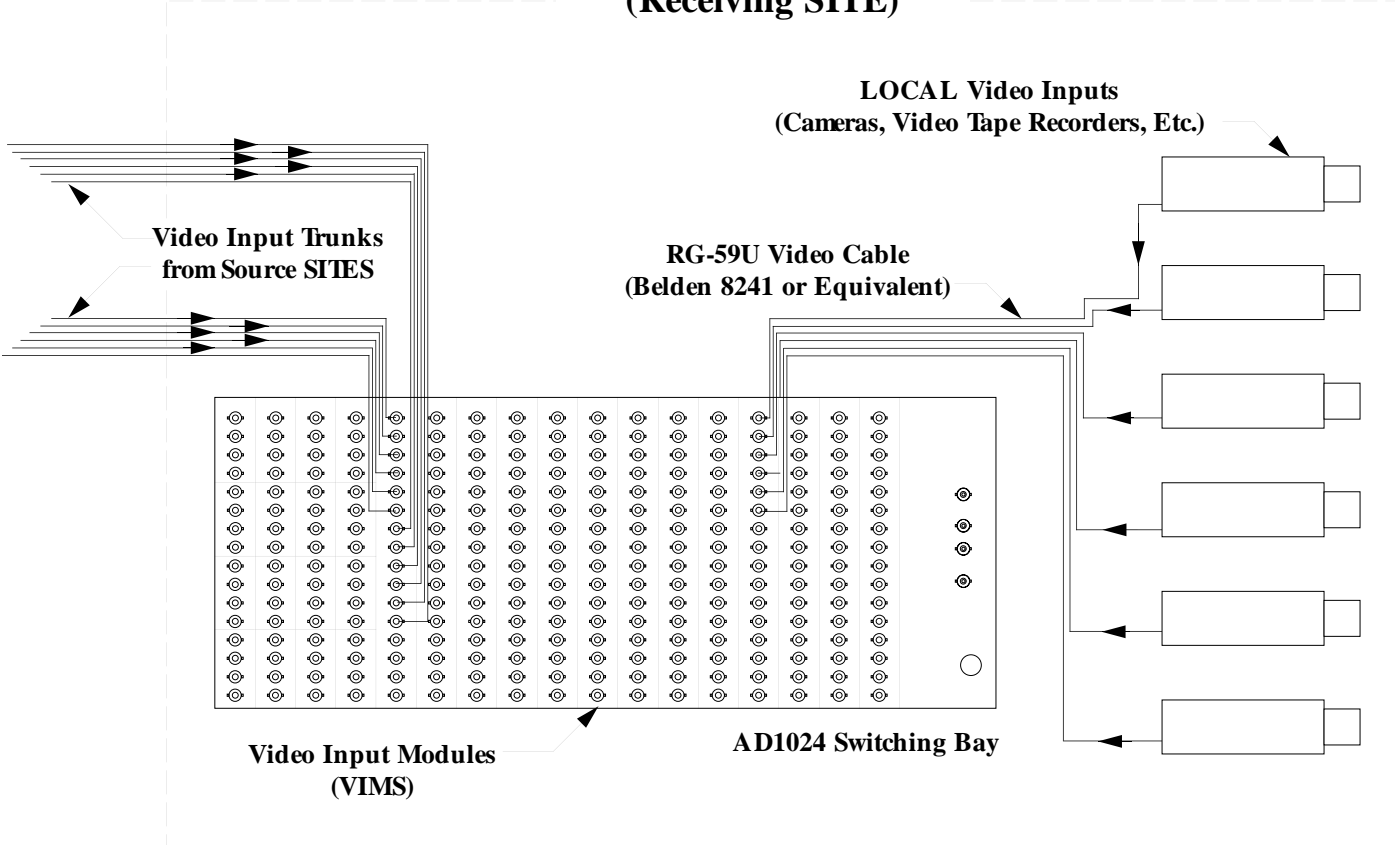

Figure 23 - Video Input Connections
For this system to access scenes from a Source SITE, an incoming video link (trunk line) must be established between the Source SITE and this Receiving SITE. The incoming video trunks connect to the AD1024 Switching Bay's VIM terminals and are treated as camera inputs (see Figure 23).
- 1) Cut the video cable to the proper length between the camera location and the AD1024 VIM terminal (see Figure 23).